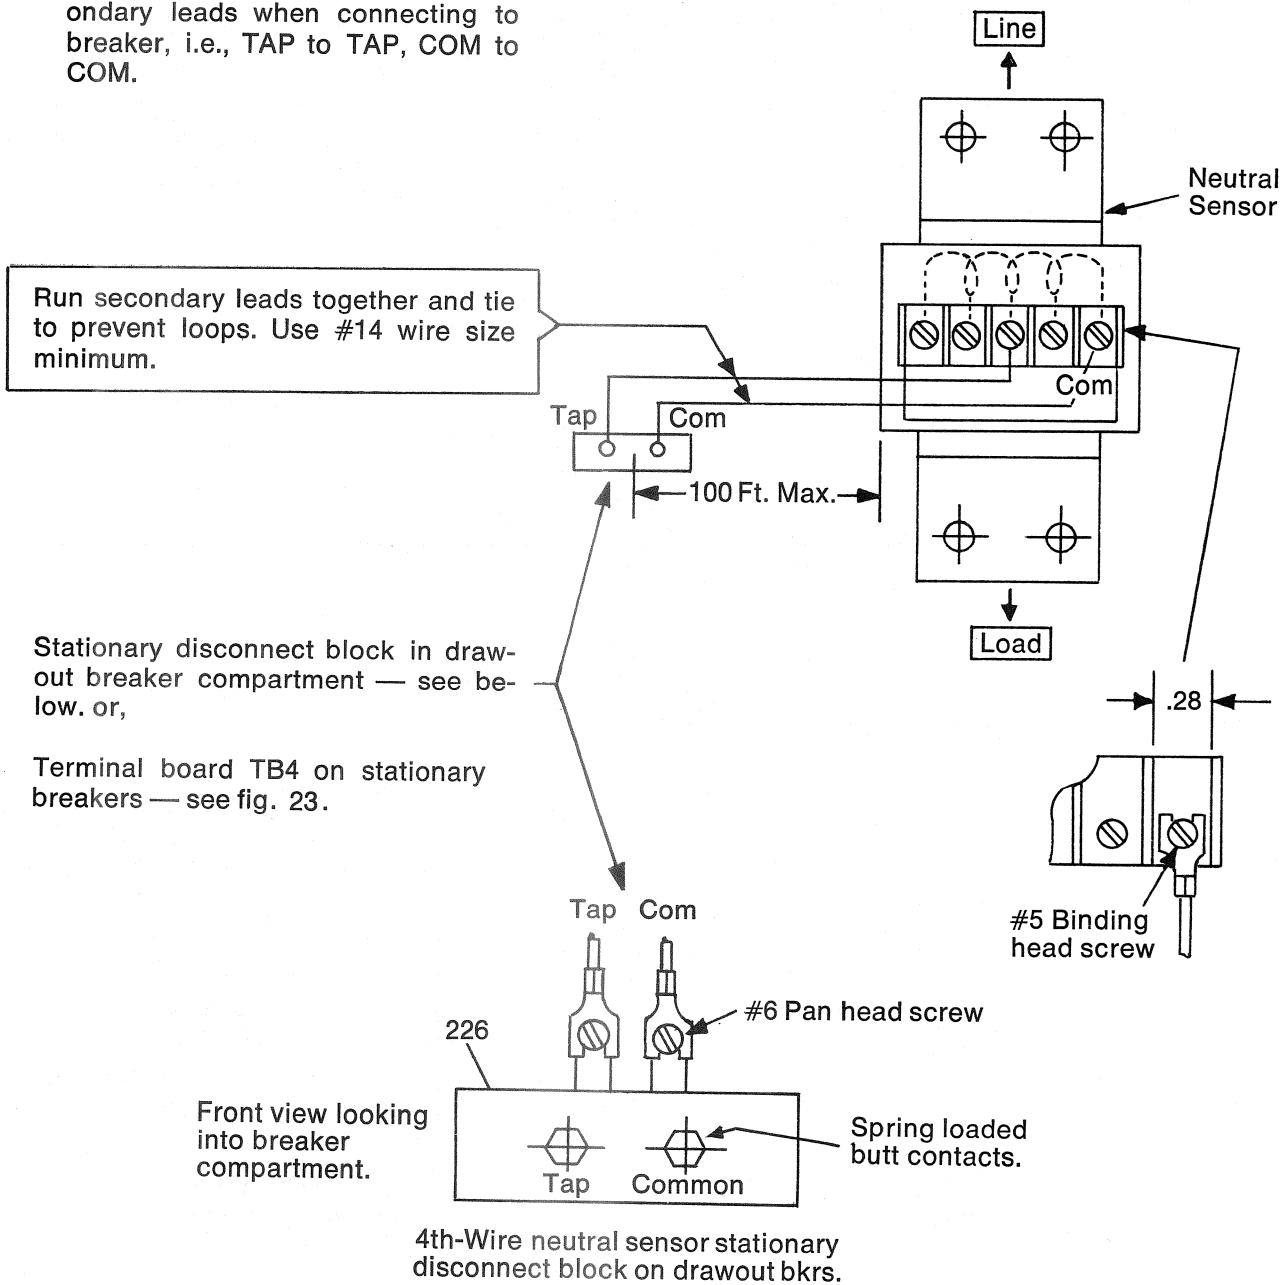

Fig. 26 — Connecting the 4th-wire neutral sensor.
3. Connect the neutral sensor to disconnect block 226 per wiring instructions of Fig. 26. For stationary breakers, the neutral sensor is connected to TB4.